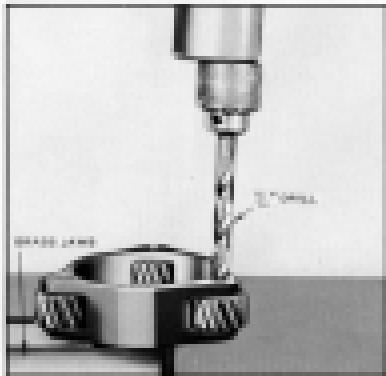

Fig. 514. Drilling Rear Unit Planet Pin.
- from the sides of the hole in carrier. (Fig. 514)
11. Remove assembly and place over tool J-2179-3. (Driving heads of pins against tool). Position swaging tool J-2179-1 over end of planet pin and swage end of each pin in the same manner as shown in Fig. 514.